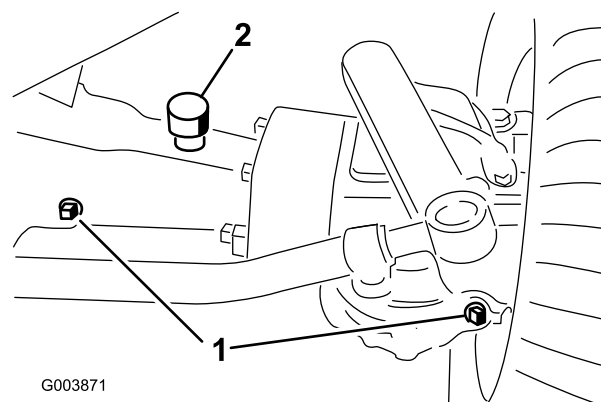
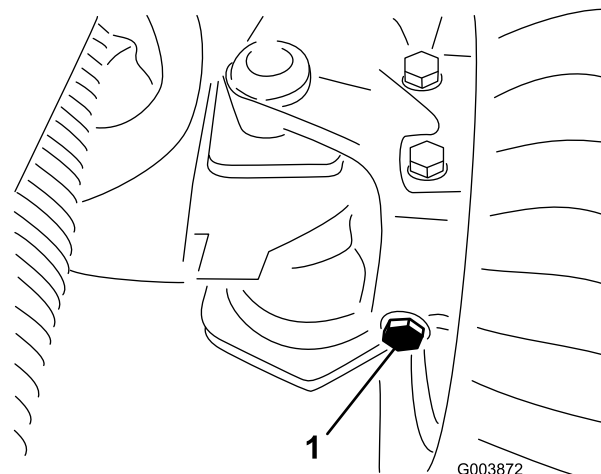

Figure 29
Figure 30
2. Remove the 3 check plugs from axle (Figure 29 and Figure 30) and make sure lubricant is up to bottom of each hole.